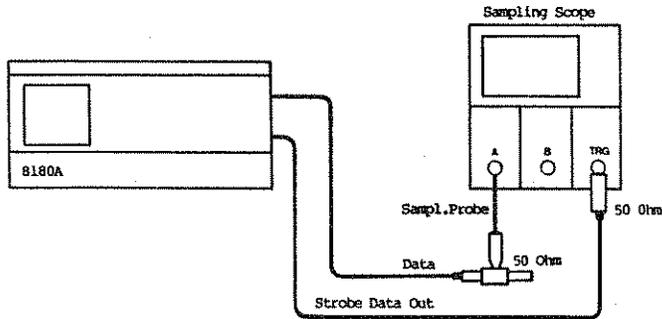

Figure 4-10 Transition Time/Overshoot Test Setup
6. Connect equipment as shown in Figure 4-10 and press RUN.